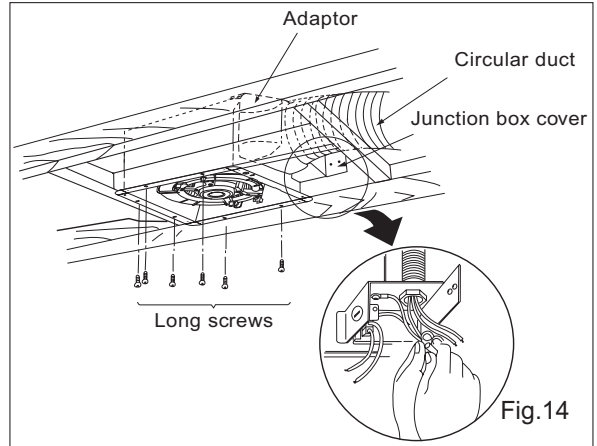

Fig.14
3. Install the ventilating fan and secure with screws.(Fig.13 and Fig.14)
Remove the junction box cover and secure conduit to junction box knockout hole (7/8 inch) (Fig.14)